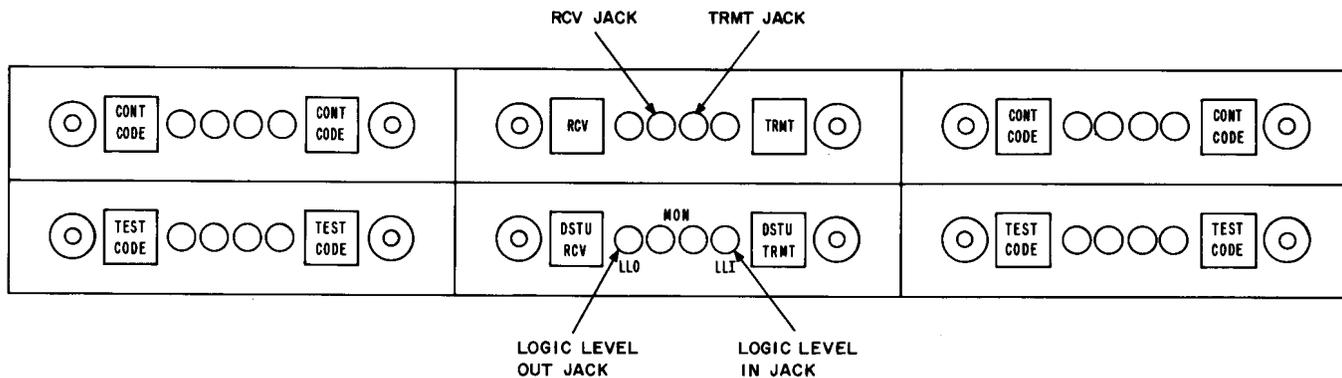

Fig. 2—Cord Reel Designations
- (1) OUTPUT switch to BIPOLAR.
- (2) DATA RATE switch to 2.4.
- (3) MODE switch to REPEAT.
- (4) Insert the TRMT cord reel plug into the RCV jack (Fig. 2) in the cord reel unit.
- (1) Insert one of the CONT CODE cord reel plugs into the RCV cord reel jack (Fig. 2).
- (2) Condition the receiver as follows: